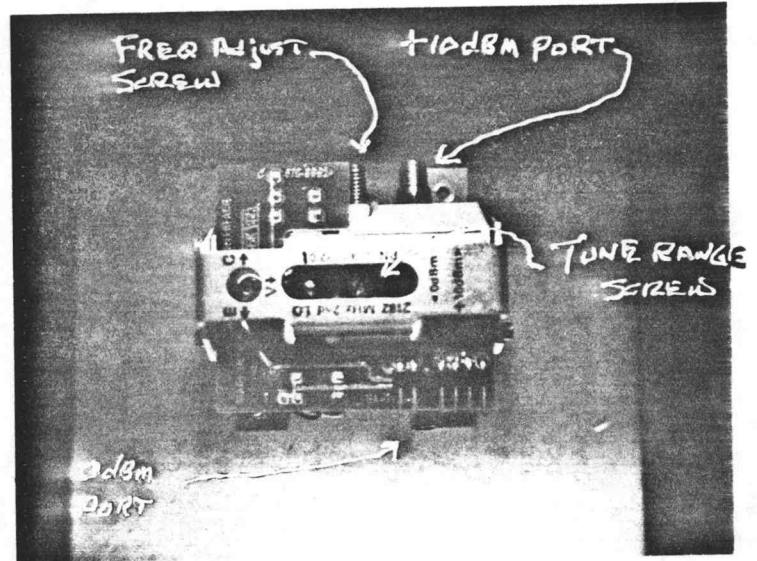
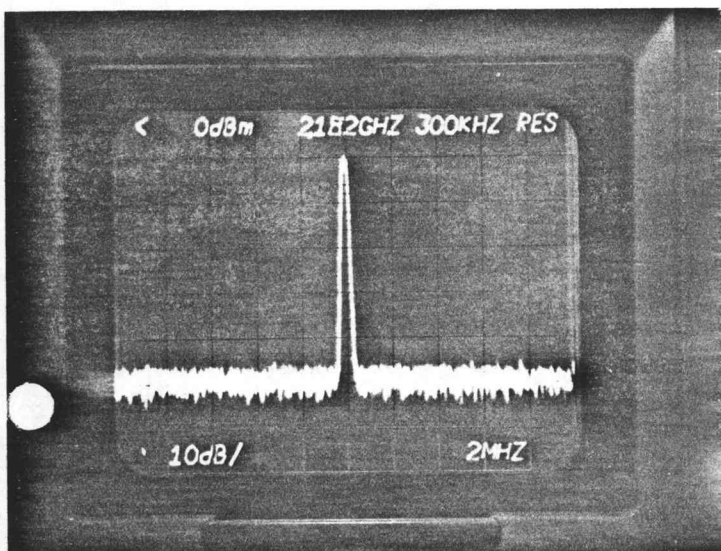
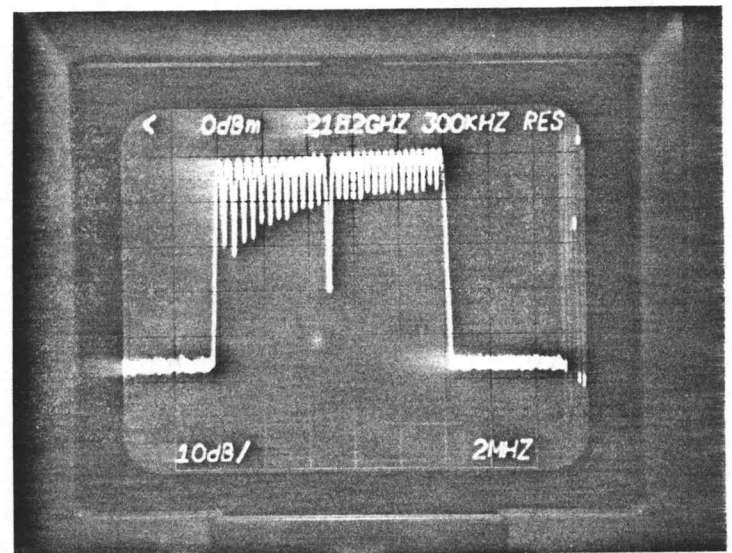

Fig. 3
Fig. 4
Fig. 5
- C. Set the power out of the 0dBm port by tightening the 5/16" nut on the 2nd LO. This will let the center post turn free (Fig. 3). Watching the power meter turn post to 0dBm + .5dBm. Retighten 5/16" nut keeping it at 0dBm. Remove both cables from both ports and rotate 180°.
F. Turn on max hold 7L18 Digital Storage, flip the switch on the right side of the test fixture to the right and the signal Fig. 4 should move across the screen. (Fig. 5) The spec is 10MHz \pm 200KHz or 5 div \pm 1 minor when in 2MHz/Div. To adjust the tune range loosen nut on tune range screw(Fig. 3)